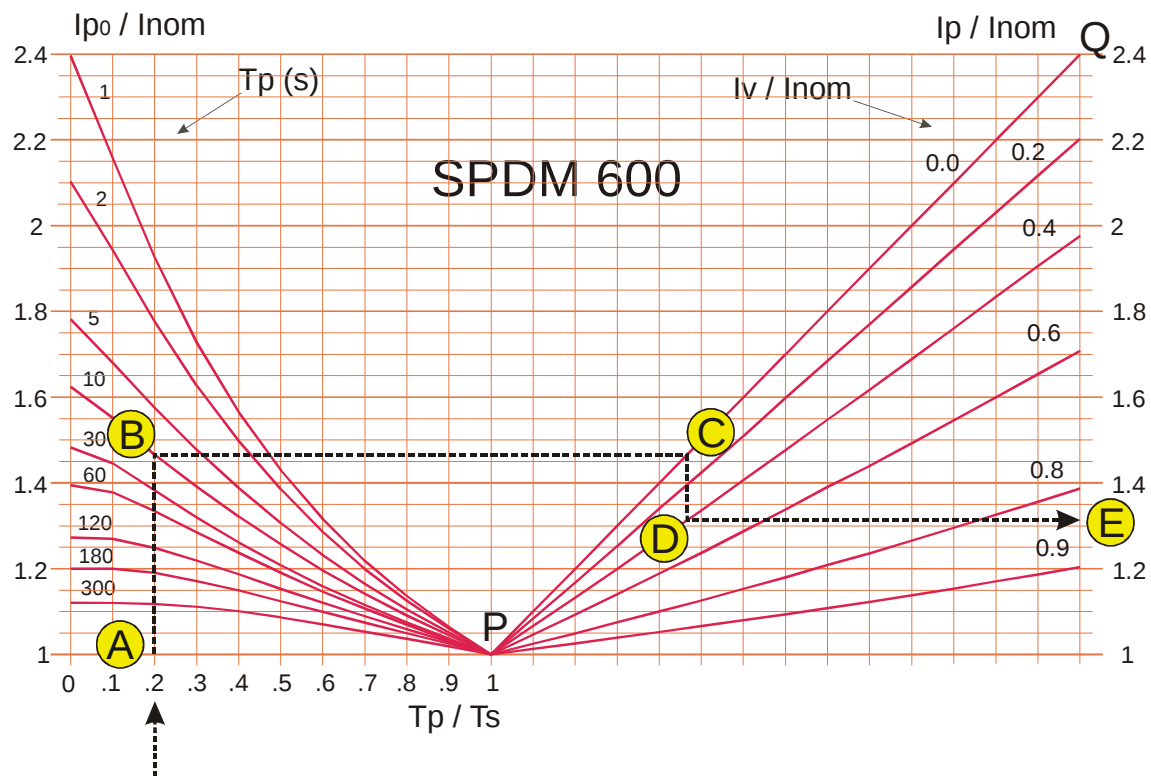

Figure 4
A curve family is related to each converter represented by a diagram; Fig. 4 shows, as example, the diagram related to Silcopac SPDM 600 converter (nominal current $I_{nom} = 600$ A) . The diagram is normally used to evaluate the I_p value starting from the known values of I_{nom} , I_v , T_p and T_s in the following way:
- from the Fig. 4 example: